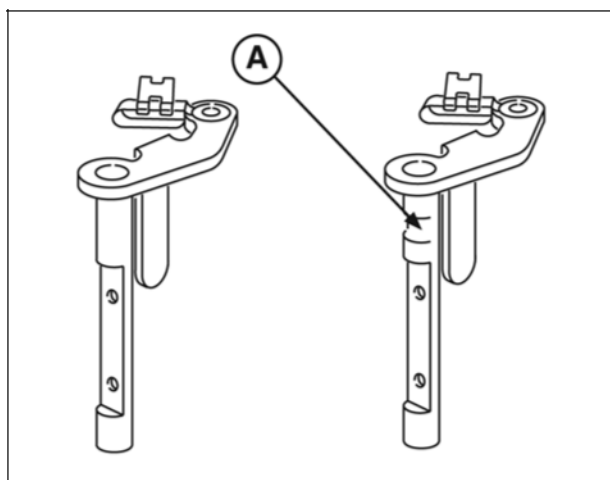

Figure 14
2. Inspect throttle shaft and choke shaft for wear (Figure 14).